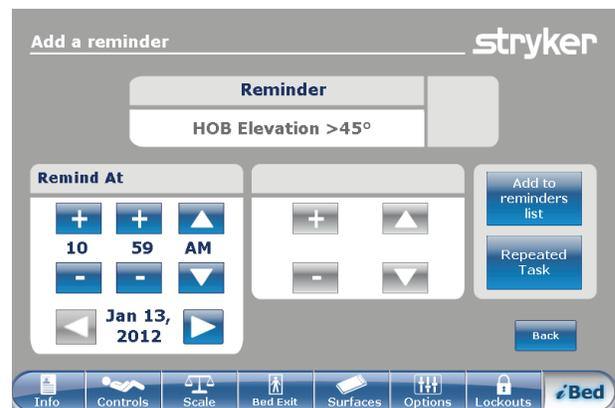

Figure 64: Setting a one-time reminder
4. Set the desired date and time of the reminder (Figure 64 on page 79).
To return to the **Reminder** screen, tap **Back** (Figure 64 on page 79).
5. Tap **Repeated Task** (Figure 64 on page 79).